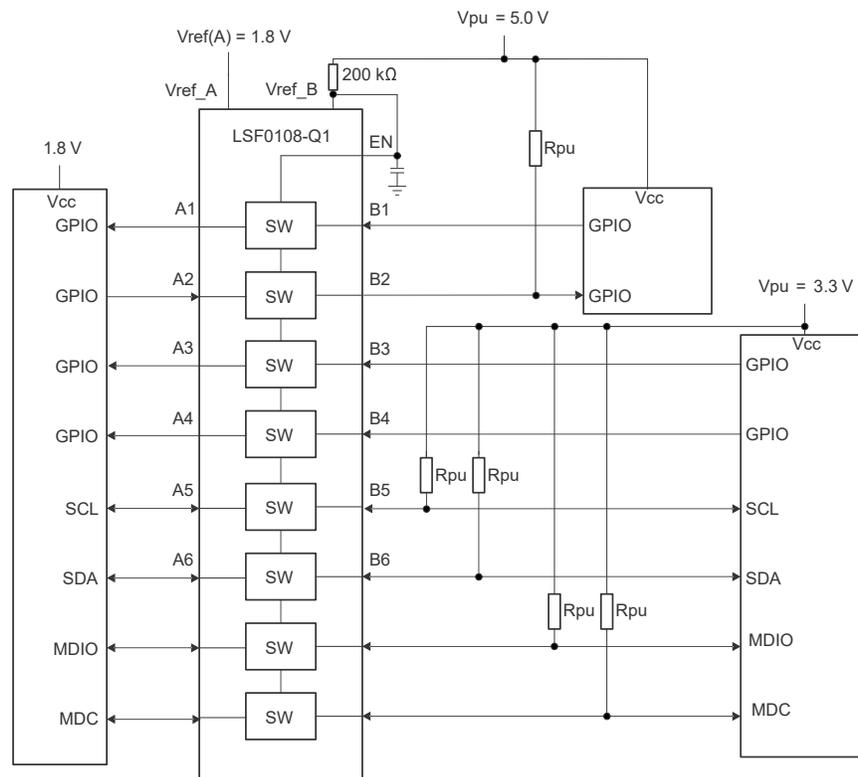

Figure 9-1. Bidirectional Translation to Multiple Voltage Levels
- V_{CCB}/V_{CCA} are not the same as V_{ref_B} or V_{ref_A} : V_{CCB} refers to the B-side supply voltage supplied to the LSF device, while V_{ref_B} refers to the voltage at the V_{ref_B} pin (pin 7 of Figure 9-1) on the other side of the 200 k Ω resistor
As shown in Figure 9-1, V_{ref_B} is connected through a 200-k Ω resistor to the V_{PU} power supply at 5 V and V_{ref_A} is connected to a 1.8 V power supply. The A1 and A2 channels have a maximum output voltage equal to V_{ref_A} , and the B1 and B2 channels have a maximum output voltage equal to V_{PU} .
Figure 9-1 shows how the reference supply voltage V_{ref_A} is connected to the processor core power supply at 1.8 V and V_{ref_B} is connected through a 200 kΩ resistor to a 5 V power supply. The output of A3 and B4 has a maximum output voltage equal to V_{ref_A} , and the bidirectional interface (Ch5/6, MDIO, MDC) has a maximum output voltage equal to V_{pu} .